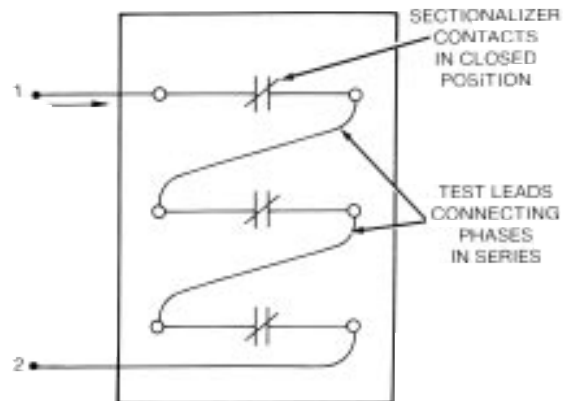

Figure 21.
1. Connect all three phases of the sectionalizer in series, as shown in Figure 21, and close sectionalizer.